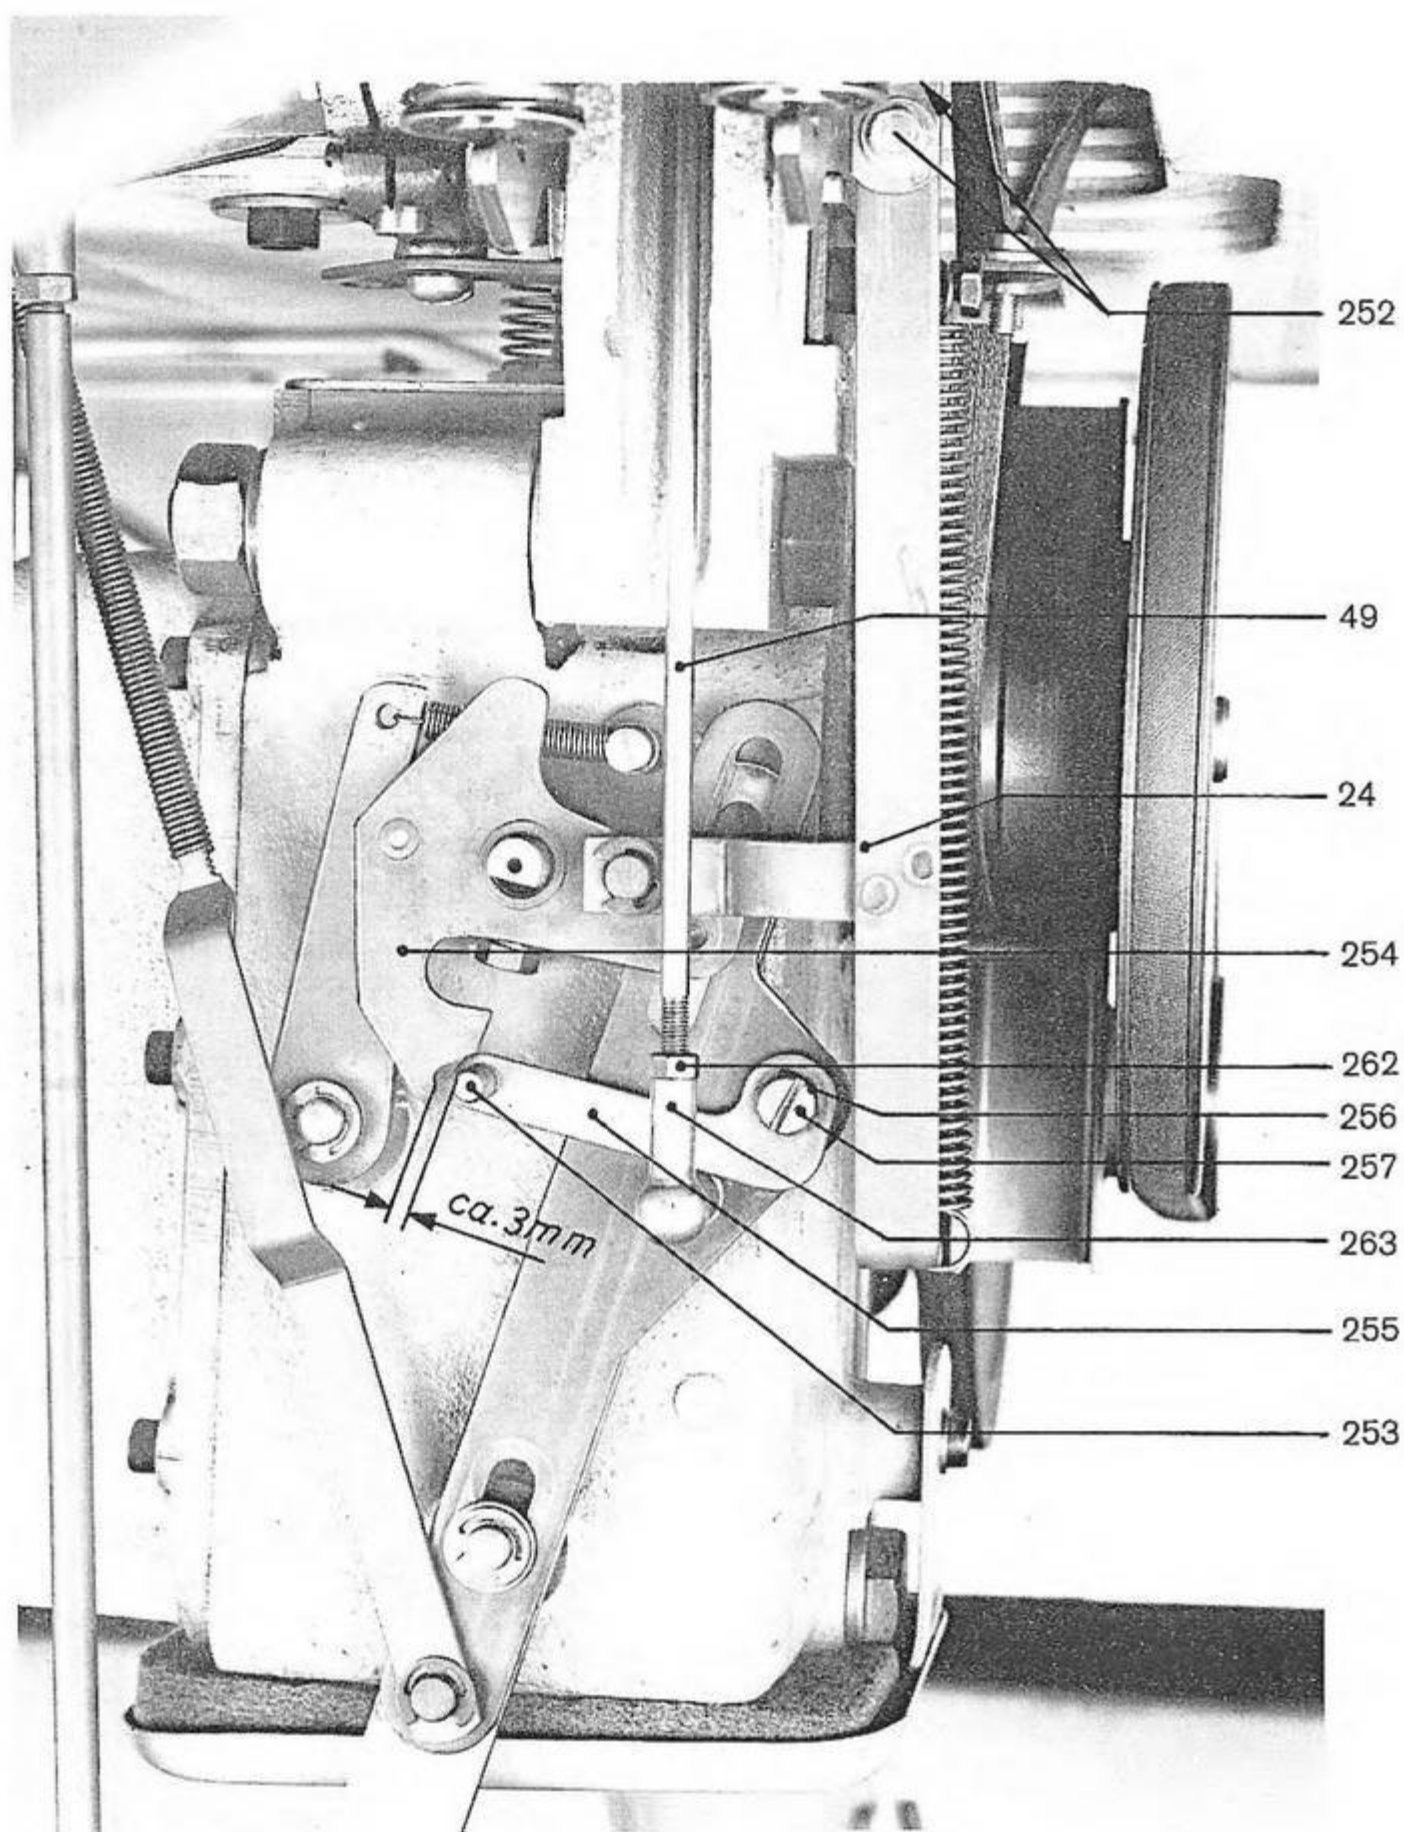
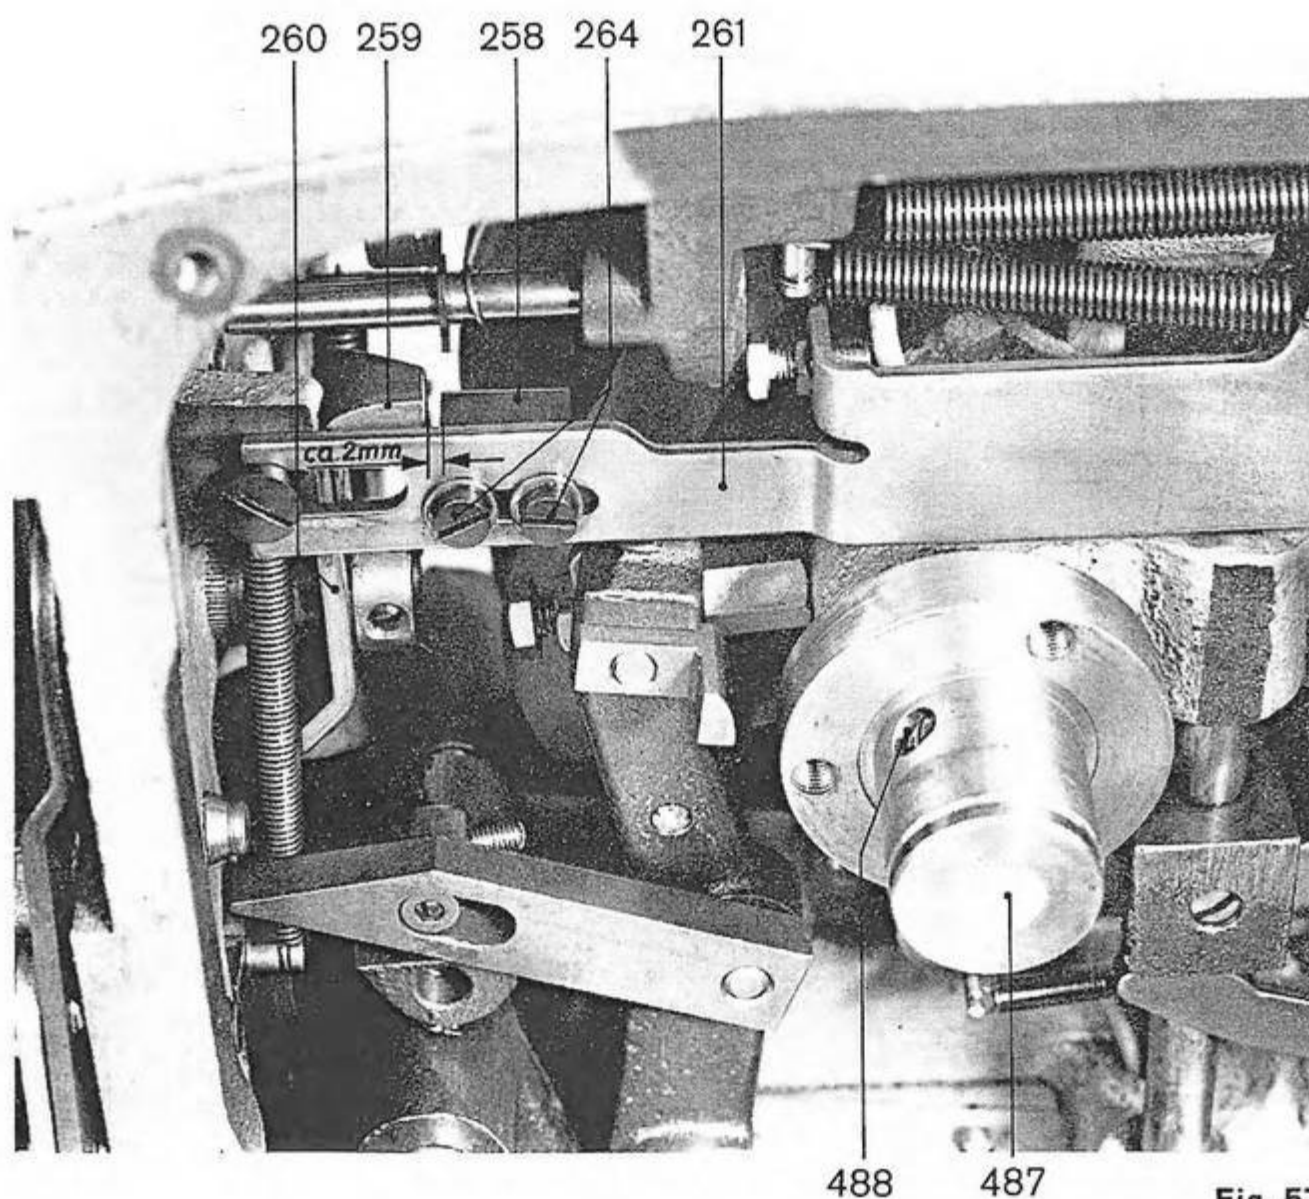

Fig. 56
Fig. 57
26. Adjusting the traction link 24, the catch lever 255, the control bar 49 and the locking cam 258 (figs. 56 and 57)
a) Adjusting the traction link 24 (fig. 56)
5. Loosen the screws 252 (fig. 56) and adjust the traction link 24 so that the distance between the bolt 253 and the cavity of the control lever 254 amounts to about 3 mm.
By displacing the control unit, e.g. for tensioning the flat belt, the distance between the bolt 253 (fig. 56) and the control lever 254 will be changed. The distance can be increased up to 5 mm without having to readjust the traction link 24.
In the above position of the machine adjust the catch lever 255 (fig. 56) so that the position of its bolt 253 with respect to the control lever 254 is as shown in fig. 56.
c) Adjusting the control bar 49 (fig. 56) and the locking cam 258 (fig. 57)
With the machine being in the aforementioned position, set the bar 49 for impeding the action of the buttonhole knife so that the angular part 259 (fig. 57) of the safety bar 260 is level with the locking cam 258 on the joint 261.
To effect this adjustment, loosen the counter nut 262 (fig. 56) and turn the bar 49 in the ball cup 263.
Set also the locking cam 258 (fig. 57) on the joint 261 so that with the machine in the aforementioned position the distance between its left edge and r/h edge of the safety bar 260 and 259 respectively amounts to about 2 mm. For adjusting the locking cam 258 loosen the screws 264 after having removed the left hand machine cover and the control cam according to the chapter 41.